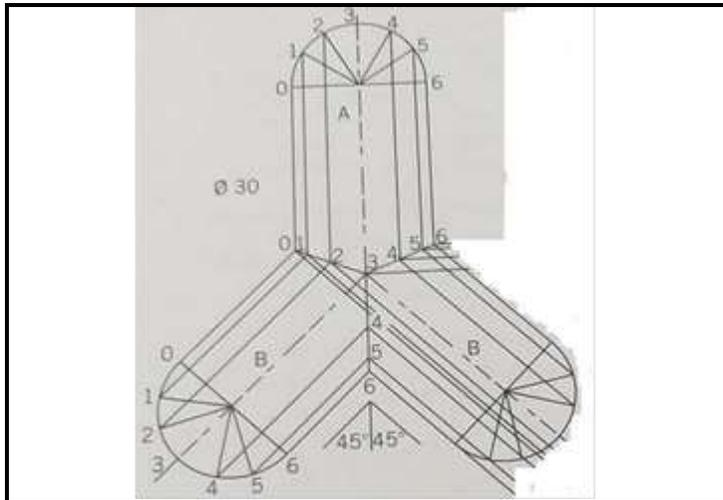

FIGURE 7.1
7.1 Develop the right cylindrical Y- connection in FIGURE 7.1 below.